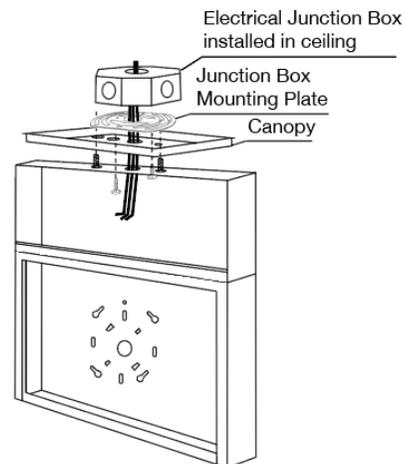

Fig. 3
- a) Pull wires through junction box mounting plate then connect junction box mounting plate to the junction box with screws (Fig. 3).
- b) Pull wires through the canopy then connect the canopy to the junction box mounting plate with screws (Fig. 3).
- c) Attach the top of the fixture to the canopy with the provided screws (Fig. 3).